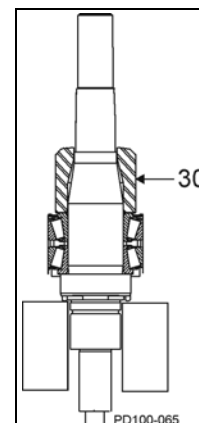

**Figure 49 - Install Upper Cup & Upper Cone**
7. Place upper cup (Figure 49, item E) on top of outer spacer.
8. Lubricate remaining upper cone and roller assembly (Figure 49, item F) with oil or grease and slip over shaft with roller radius up. Press onto shaft and into upper cup.